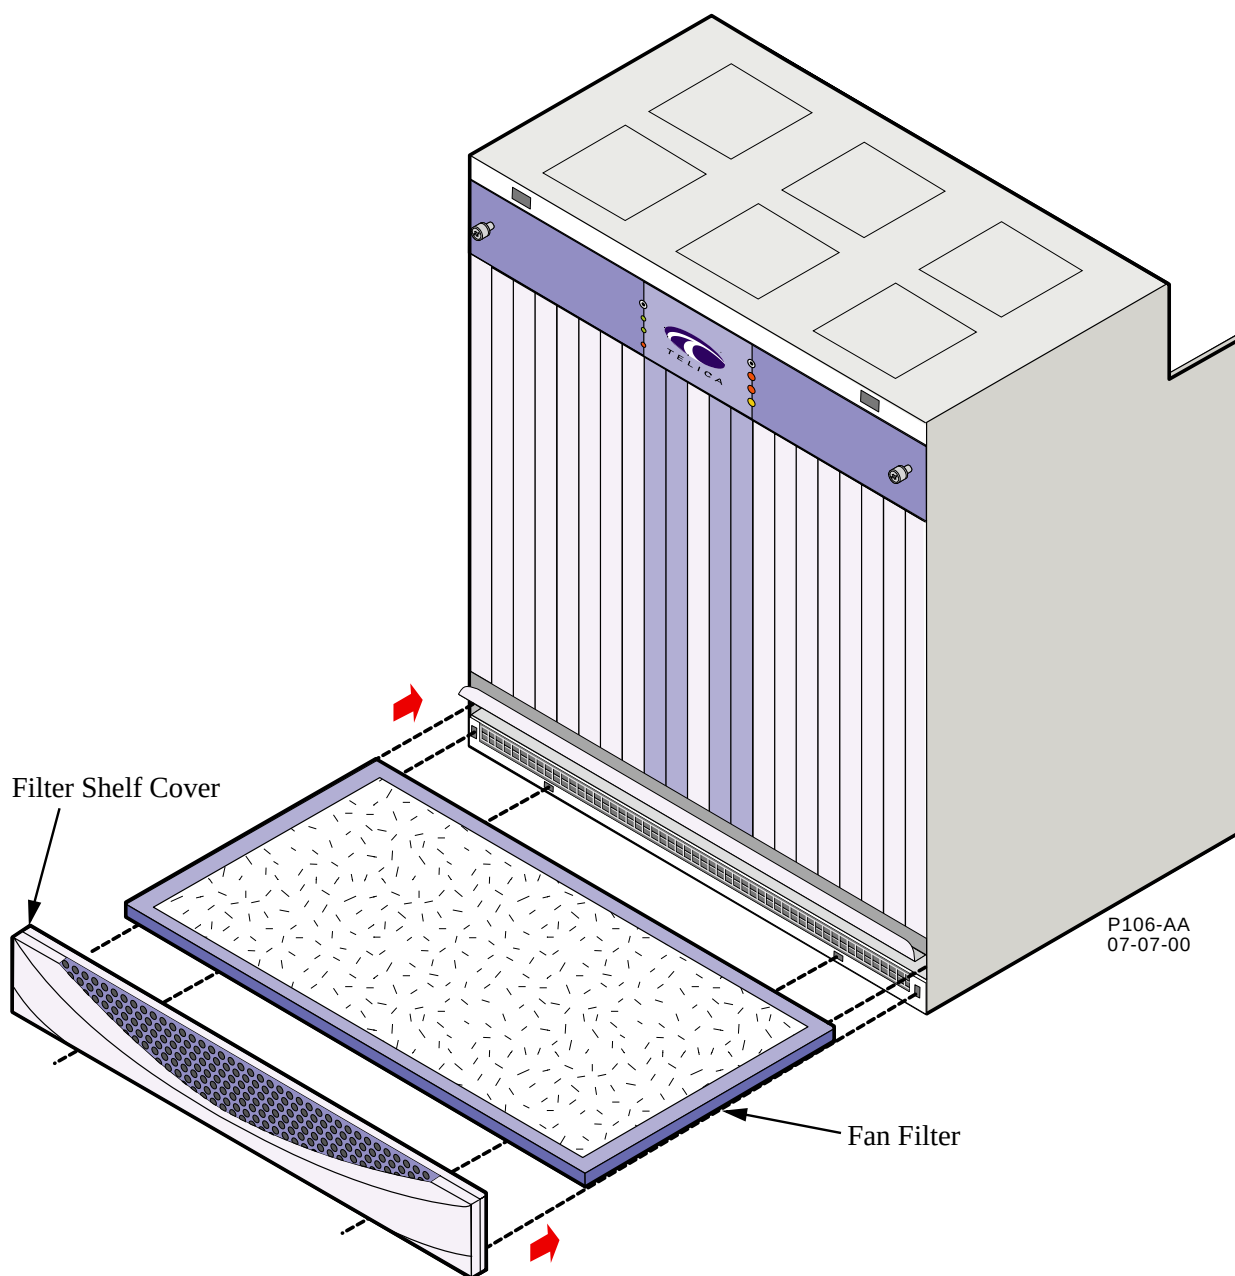

**Figure 1. Fan Filter Removal and Replacement**
7. Attach the fan filter grill cover to the front bottom of the chassis as shown in Figure 1.